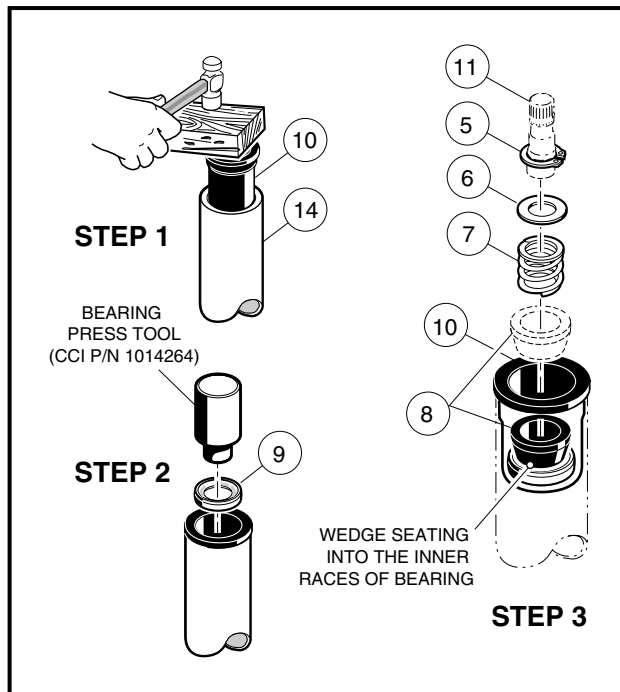
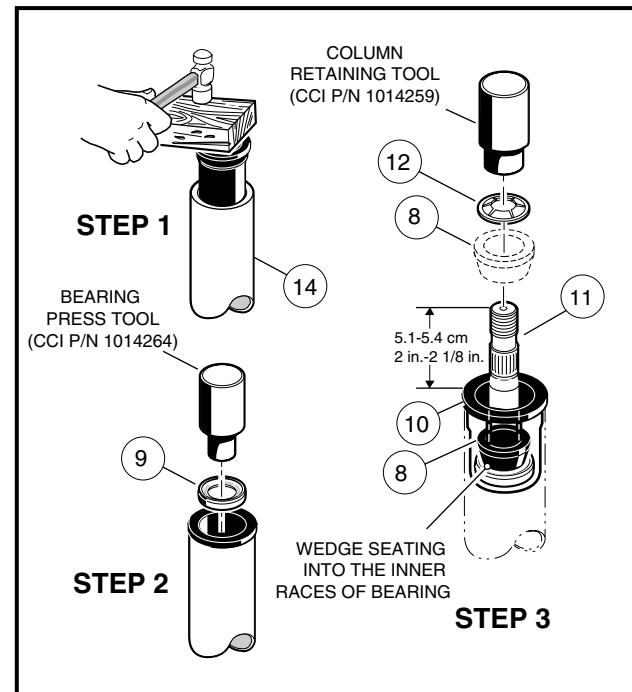

Figure 7-5 Steering Shaft–Bottom End
Figure 7-6 Steering Shaft–Top End
1. Insert bearing seat (10) into both ends of steering tube (13). Place a block of wood on bearing seat and tap lightly on block until bearing seat (10) is fully seated in steering tube (13) (**Figure 7-5, Page 7-6 and Figure 7-6, Page 7-6**).
2. Press the bearing (9) all the way into the bearing seat (10) using a steering column bearing press tool (CCI P/N 1014264) or a metal tube approximately six inches (15.2 cm) long with a maximum outer diameter of 1-3/16-inches (3.3 cm) and a minimum inside diameter of 7/8-inch (2.2 cm). Be sure the bearing is installed in the bearing seat as shown (**Figure 7-5, Page 7-6**) so the wedge (8) will ride against the inner race of the bearing.
3. Install the wedge (8), spring (7), washer (6) and snap ring (5) onto the bottom end of the steering shaft (11) (**Figure 7-5, Page 7-6**).
5. Turn the assembly over and place the shaft (11) on a bench. Install the wedge (8) and retaining ring (12) onto the top of the shaft. Be sure the prongs on the retaining ring face up and away from the wedge. Use a steering column retaining ring tool (CCI P/N 1014259) to seat the retaining ring to the proper depth. Support end of tube while pressing. If you do not have the recommended tool, use the same tube as was used in step 2 to press the retaining ring onto the top of the shaft. The retaining ring should be pressed onto the shaft until 2 to 2-1/8 inches (5.1-5.4 cm) of the shaft extends from the top of the bearing seat in the steering tube (**Figure 7-6, Page 7-6**).